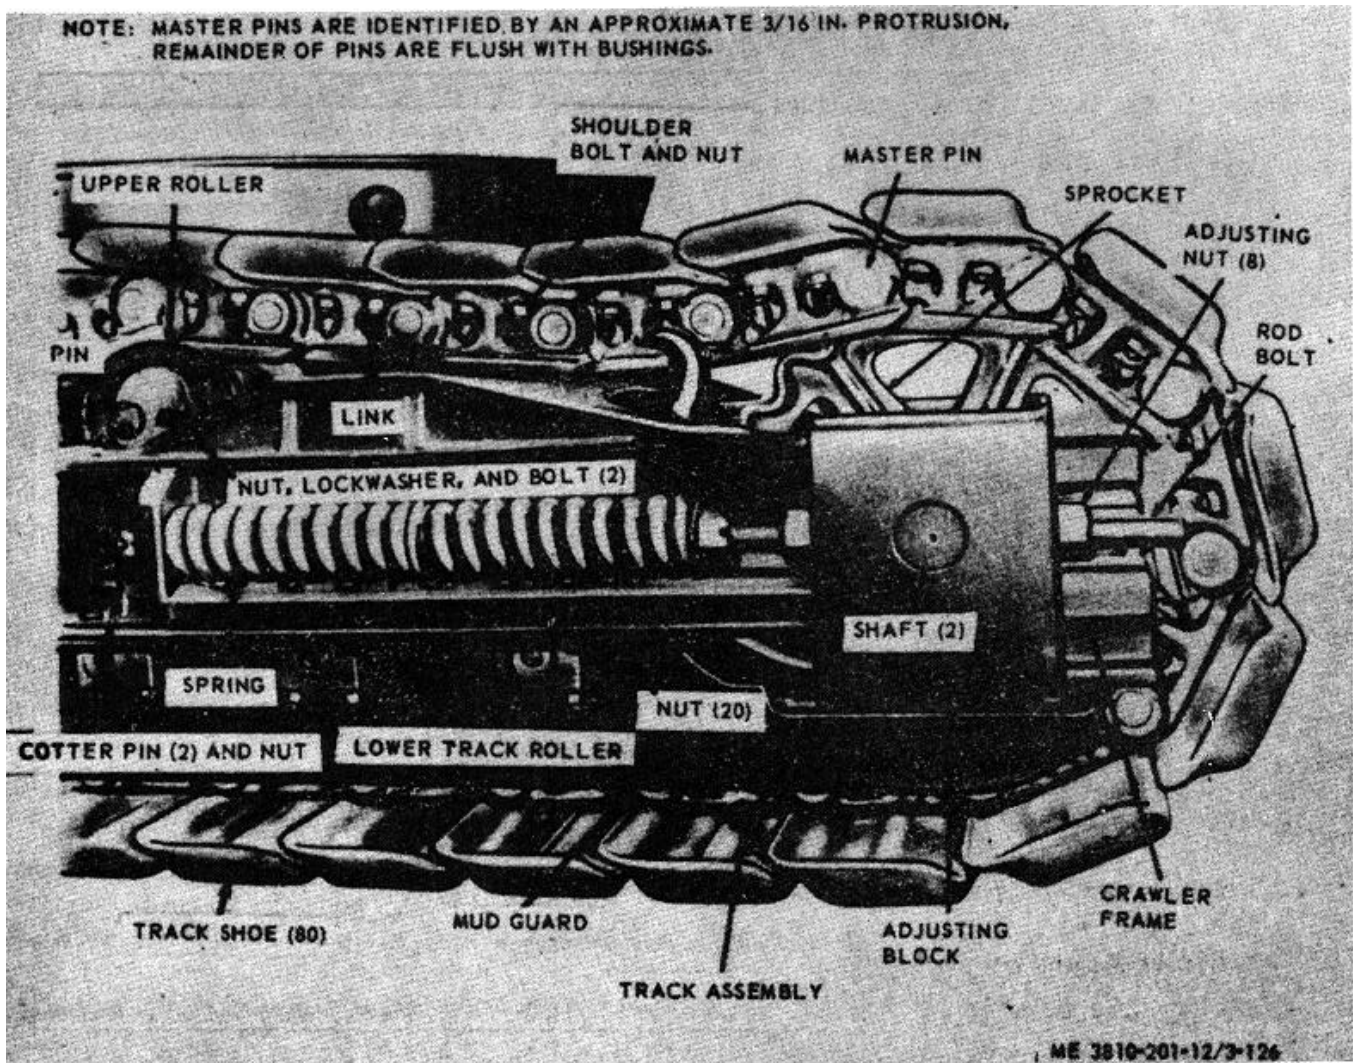

Figure 3-113. Track, removal and installation.
(1) Travel crane-shovel unit to firm ground that is as level as possible, and stop with one of the master pins (fig. 3-113) at one end of crawler frame.
(2) Drive out master pin, then remove spacer and master bushing from link.
(3) Travel crane-shovel unit slowly away from removed master pin until the track is flat on the ground.
(4) Position suitable jack under crawler frame on the side where track is being removed and raise crawler frame until track is free of lower track roller and sprocket.
(5) Pull the track assembly from under the crane-shovel unit.
(1) Remove cotterpin and nut (fig. 3-113) from end of rod bolt. Remove cotterpin from nut at end of spring, and move nut toward adjusting block until tension on springs is relieved.
(2) Remove adjusting nut at end of rod bolt and back off the one on other side of adjusting block until rod bolt will come out of bracket at end of springs.
(3) Remove rod bolt from bracket, pull rod bolt out of adjusting block, then remove and separate the two springs.
- (1) Remove track (para 3-134).
- (2) Remove 20 nuts (fig. 3-113) then remove mud guard.
- (3) Remove remaining mud guard in similar manner.
- (4) Install in reverse order.